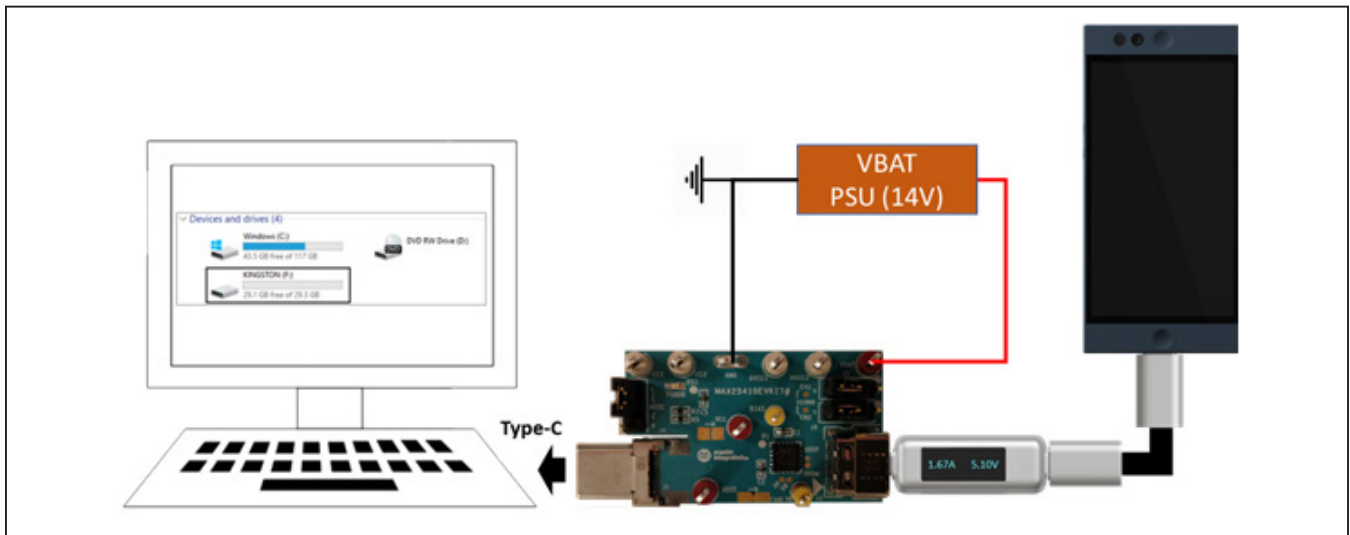
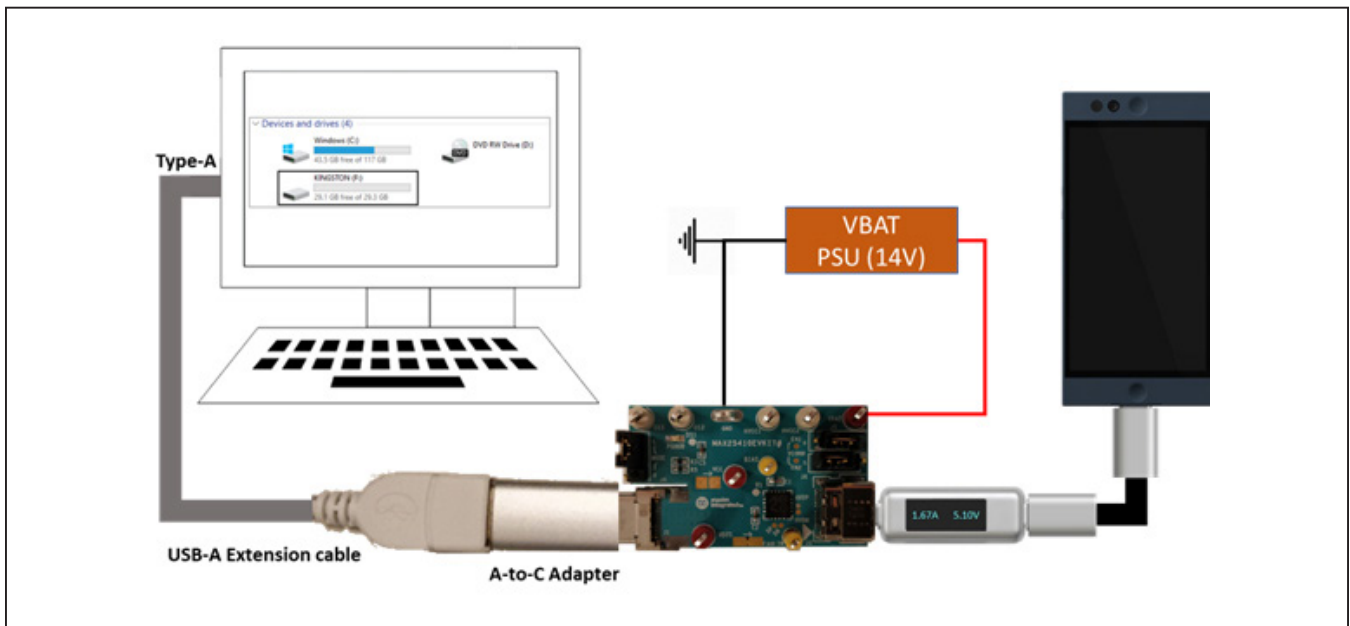

Figure 7. Auto-CDP Setup (Type-C Downstream Port)
Figure 8. Auto-CDP Setup (Type-A Downstream Port)
- Laptop with a 1.5A or greater Type-C or Type-A downstream port. If Type-A, an A-to-C adapter and extension cable (1m or shorter) are needed. See the two example setups in Figure 7 and Figure 8.